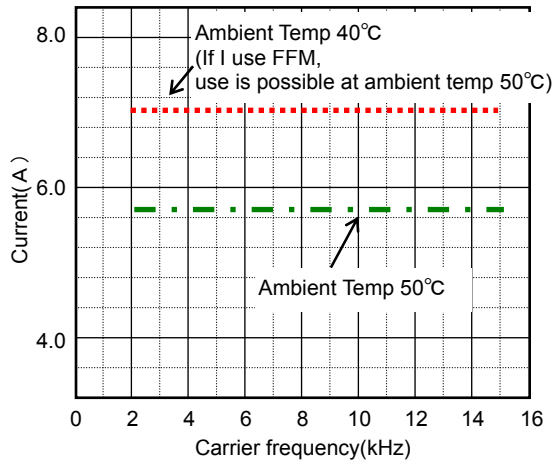
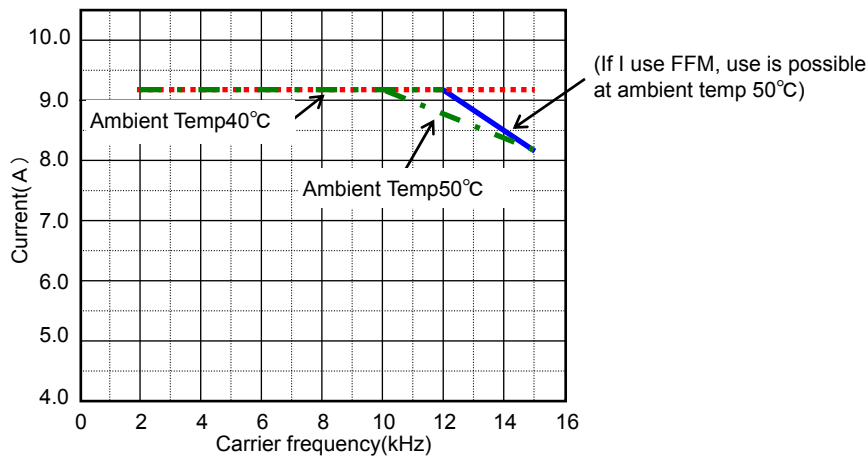

Figure5. Derating of NES1-015SB
Figure7. Derating of NES1-040HB
- Derating properties are improved by attaching optional FFM to an applicable model. Neither applicable model needs the derating of the carrier frequency and the current derating at ambient temperature 50°C. The detail refers to figure 5 ,6 and figure 7